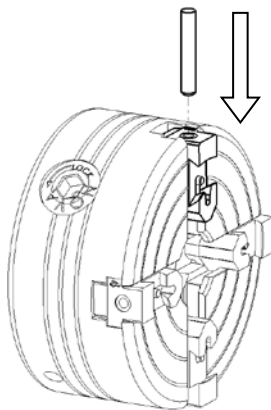

Figure 2
2. Push in the Lock Push Pin on the back of the Jaw Side Using the pin in the end of the Chuck Key Handle to release the locking mechanism (Figure 2).